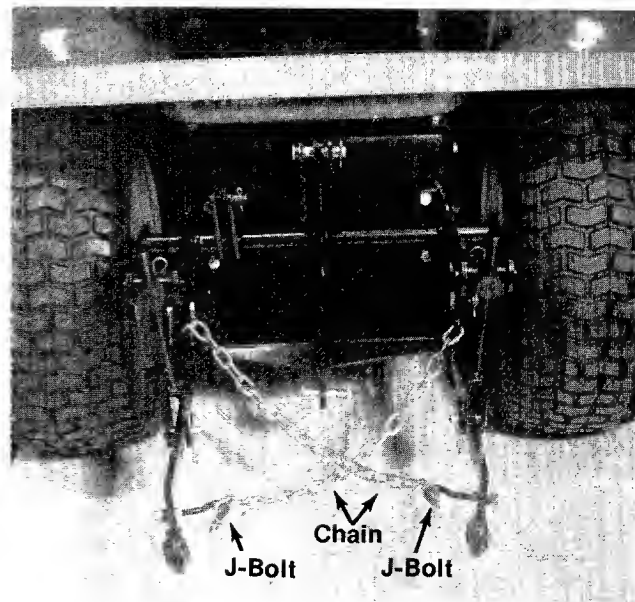

FIGURE 25
8. Place a lockwasher next to the hex nut and insert the hook bolt through the inside of the draft bar. Secure using a second nut. Do not tighten. See figure 25.